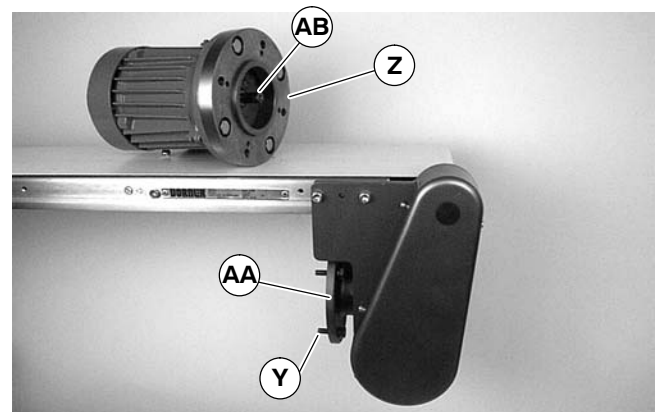

Figure 28
3. Remove four (4) screws (Y of Figure 28). Detach motor with adapter flange (Z) from gear reducer (AA). Retain motor output shaft key (AB).